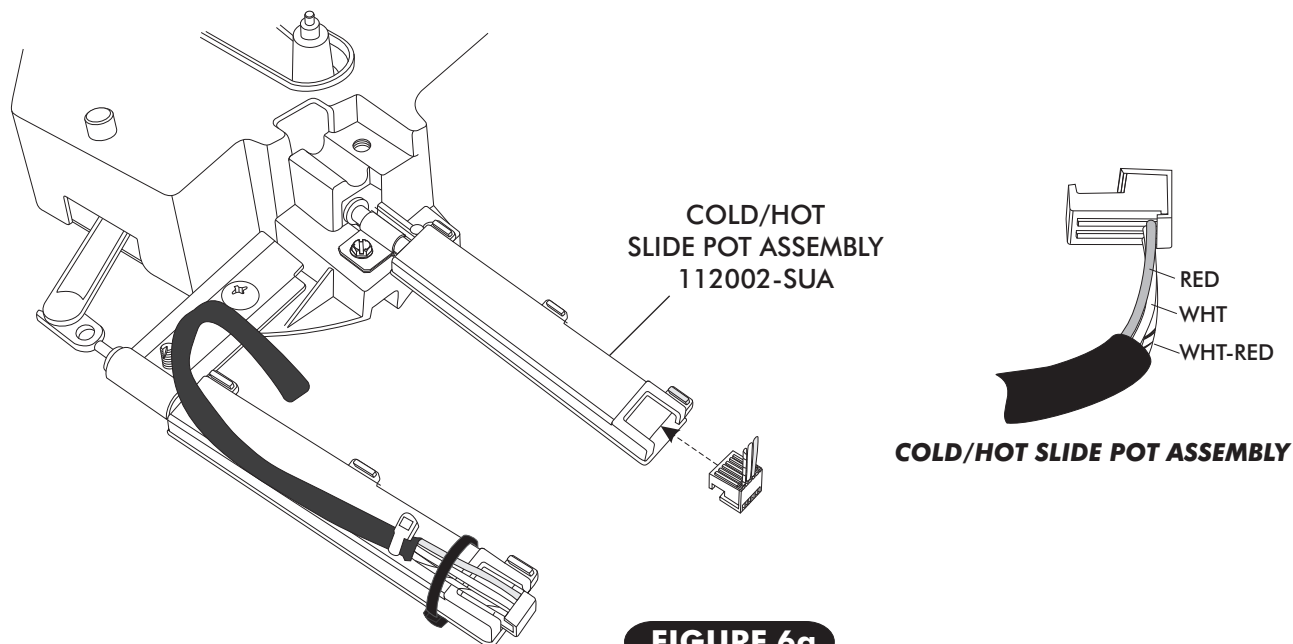

FIGURE 6a
- LOCATE THE CONTROL PANEL WIRE HARNESS AND PLUG THE CORRESPONDING WIRES INTO THE CORRECT SLIDE POT ASSEMBLY AS SHOWN IN FIGURE 6a BELOW.